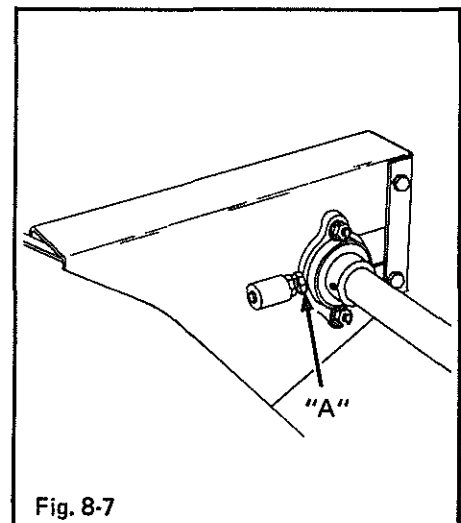

Fig. 8-7
the gear box assembly. Next, loosen the two carriage bolts which mount the self-aligning bearing to the rotor housing, as shown in Figure 8-7. Then loosen the hex nut and adjust the hex head adjusting screw (A) to position sprocket to the desired chain tension.